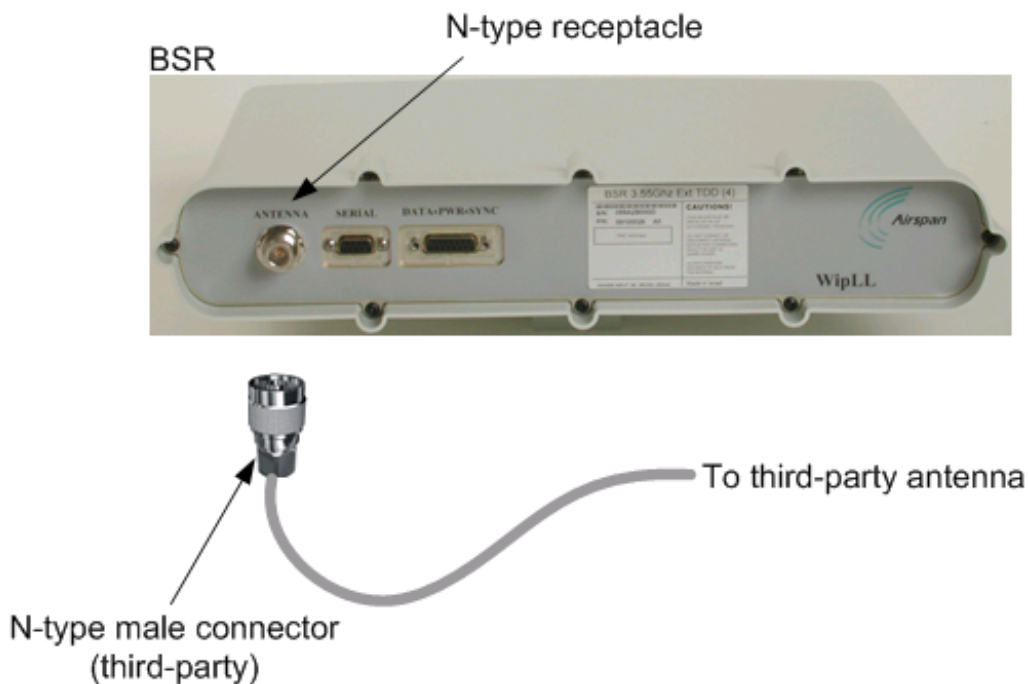

Figure 4-10: Connecting BSR to N-type external antenna connector (third-party)
- Attach the third-party **N-type male** connector to the N-type receptacle located on the BSR's front panel, as displayed in Figure 4-10.